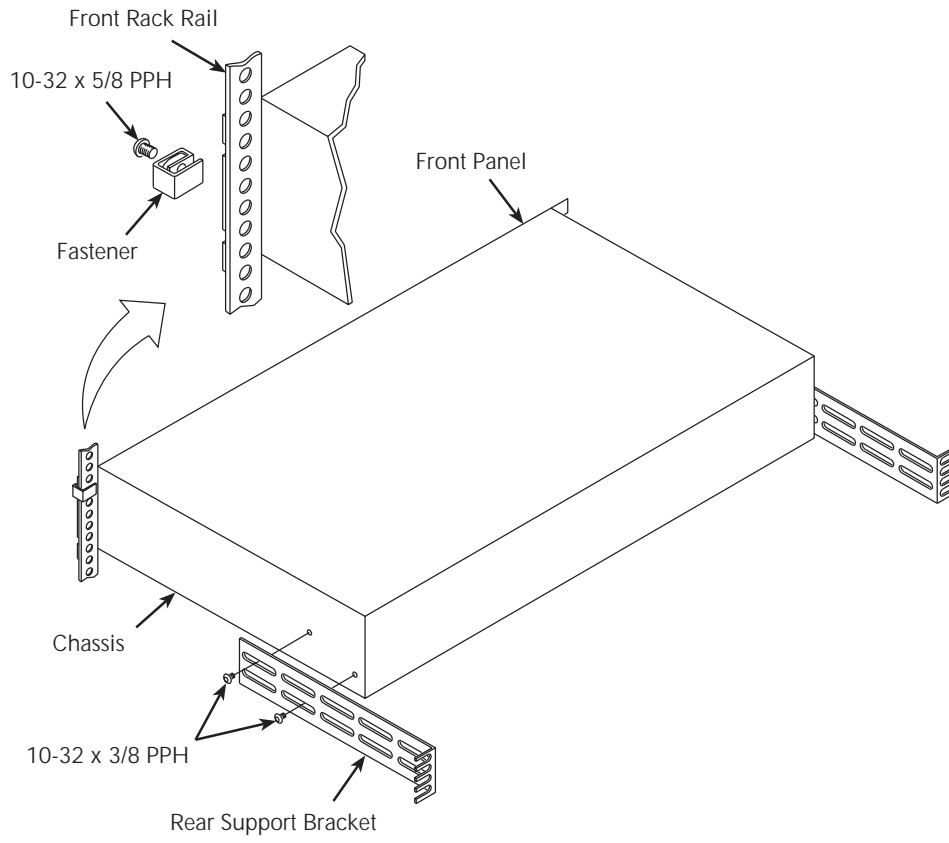

Figure 1
4. Install the four fasteners such that the captive nuts are located behind the appropriate holes on the front rack rails. Refer to Figure 1.
Refer to Figure 1.